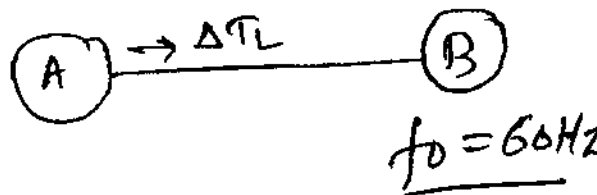

Fig.Q.1(b)
- b. Two areas are interconnected as shown in Fig.Q.1(b). The generating capacity of area A is 36000 MW and its regulating characteristic is 1.5% of capacity per 0.1 Hz. Area B has a generating capacity of 4000 MW and its regulating characteristics is 1% of capacity per 0.1 Hz. Find each area share of a 400MW disturbance (load increase) occurring in area B and the resulting tie-line flow. (10 Marks)